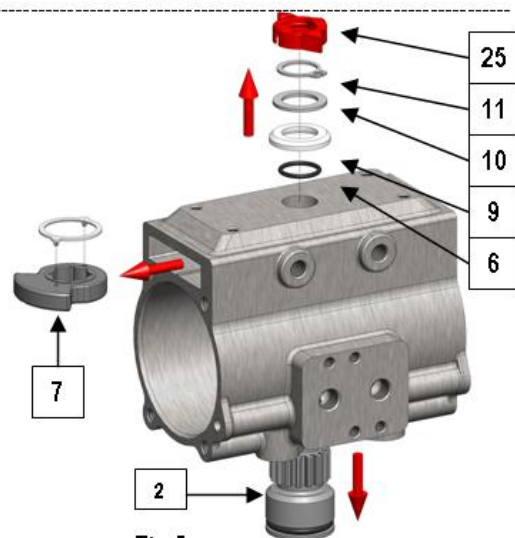

Fig.5
9. Remove the position indicator (25) from the pinion (2), snap ring (11), the washer (10), the spacer (9) and the O-ring (6) see Fig. 5 ;
10. Extract the pinion (2) from the cylinder (1) by pushing it down, with special caution for all seatings, see Fig. 5 (if necessary use a rubber hammer);
11. Tilt the cylinder (1) and let the cam (7) slide out, see Fig. 5.